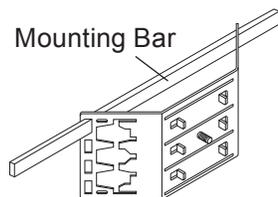

Figure 1
- A. With mounting bar using rectangular slots as shown in Figure 1 below.